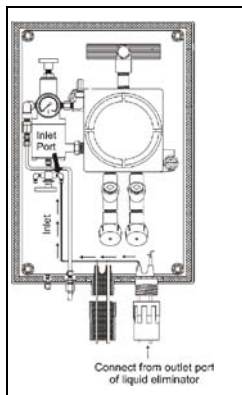

Figure 2
- 2.2.3 Use tubing to connect the incoming cable from the outlet port of the Liquid Eliminator to the inlet port of the Heated Regulator (see Figure 2).